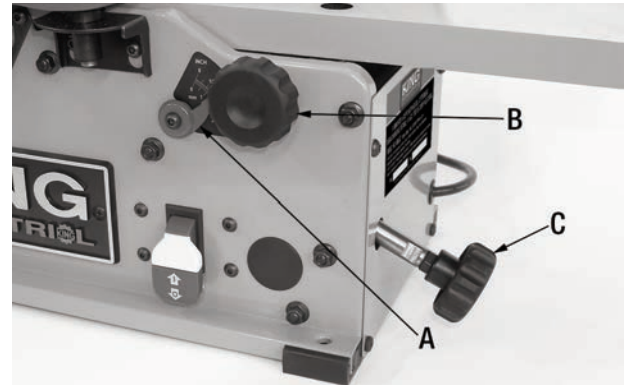

FIGURE 12
The infeed table height is adjustable and can be raised or lowered to set the depth of cut. The depth of cut pointer (A) Fig.12 though not designed for precision measurements, can be used as a reference.
- 1) Loosen the infeed table lock knob (B) Fig.12.
- 2) Turn the depth of cut adjustment knob (C) in the required direction to raise or lower the table height to the desired approximate depth of cut.
- 1) Loosen the infeed table lock knob (B) Fig.12 and use the depth of cut adjustment knob (C) to set the infeed table to its highest point, level with the top of the cutterhead.